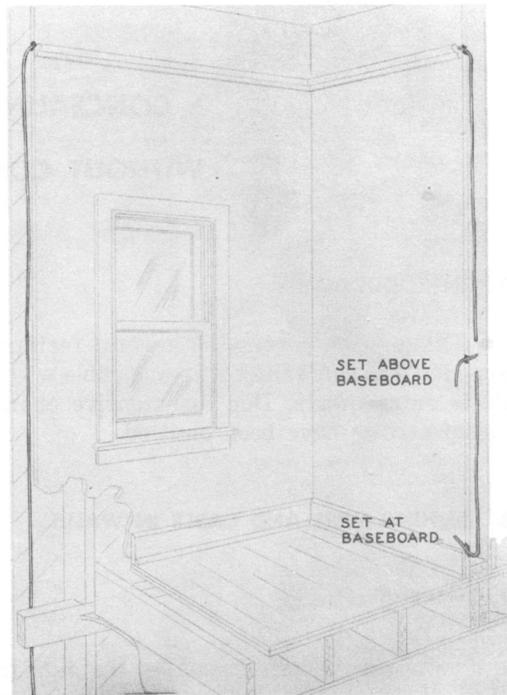

Fig. 2 — Locating on Inside Wall
- In general, no obstructions will be found in fishing brick or balloon (no obstructions between studs) frame houses (see Fig. 2).
- In locating the set, connecting block, etc, on an inside wall, proceed as shown in Fig. 2.